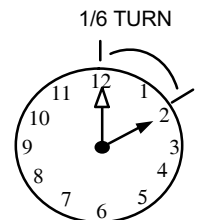

Figure 13. Evacuating Line Set and Indoor Coil
2. Evacuate the system using procedure provided in figure 13.